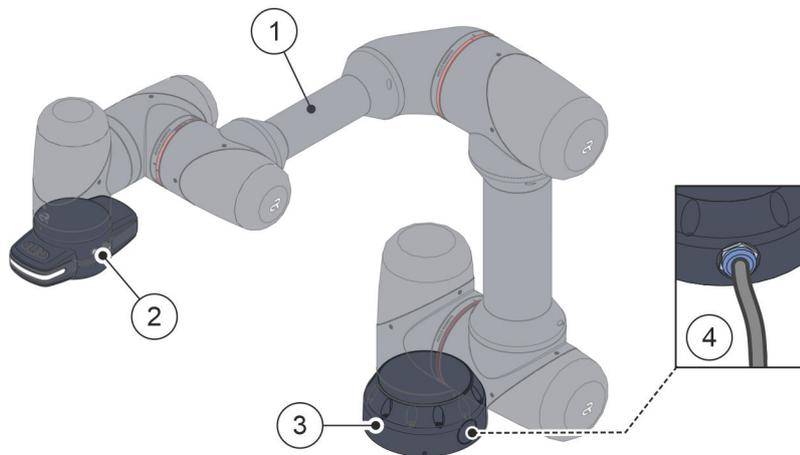

Fig. 4 Media flange and robot base
- ① Robot arm
- ② Media flange
- ③ Robot base
- ④ Connecting cable (robot – robot controller)
The robot on the robot base Fig. 4/③ is bolted to the mounting surface. The connecting cable Fig. 4/④ for connecting the robot and the robot controller is firmly connected to the robot base.
Tools or other devices can be connected to the robot via the media flange Fig. 4/②.